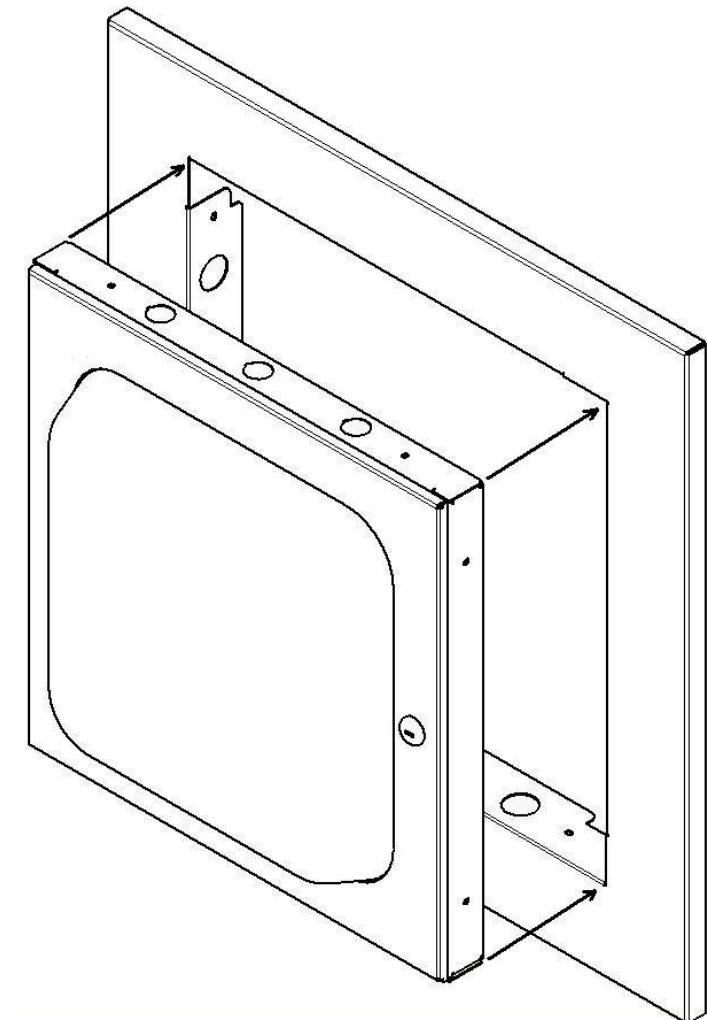

Figure 2 - Installation of Model 1030-00 enclosure into 1030-FLANGE
Step 9 – To attach the optional flange, place the Model 1030-00 enclosure into the opening as shown in figure 2. Slide the 1030-00 enclosure into the flange until the screw holes located on the side of the enclosure align with the oblong holes located on the edge of the flange. The front surface of the enclosure door should align with the front surface of the flange with the dome protruding its full height.